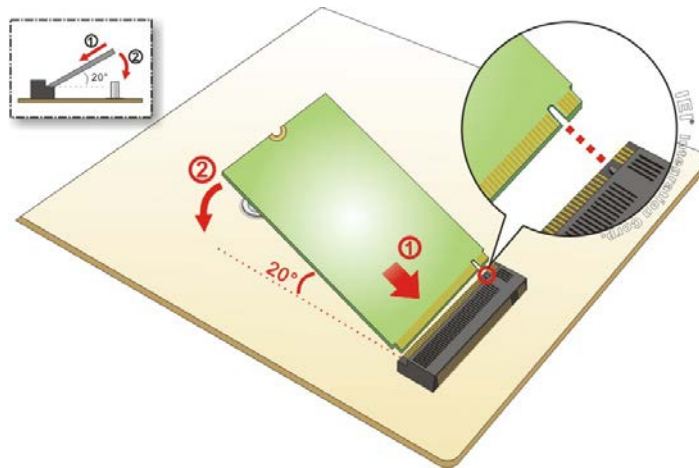

Figure 4-10: Inserting the M.2 Module into the Slot at an Angle
Step 2: Line up the notch on the module with the notch on the slot. Slide the M.2 module into the socket at an angle of about 20° (**Figure 4-10**).